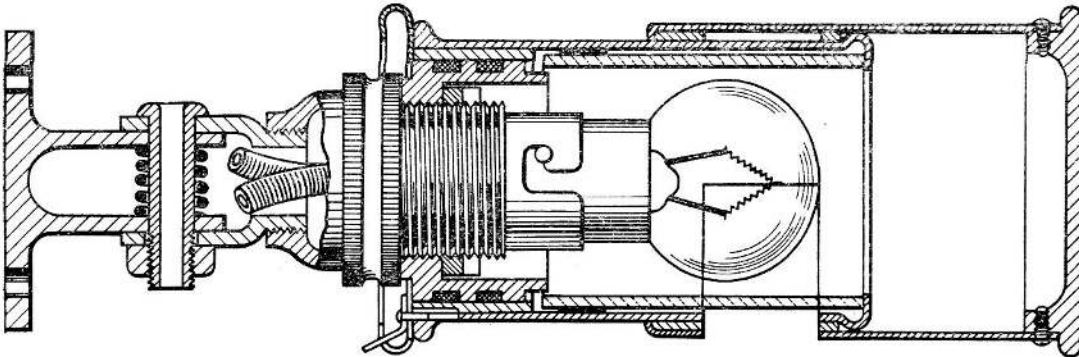

Fig. 2. Sectional view of cockpit lamp
4. A standard small bayonet lamp socket is screwed on to a mounting stirrup, and this is hinged to the mounting bracket as shown in *fig. 2*. A special bolt serves as a